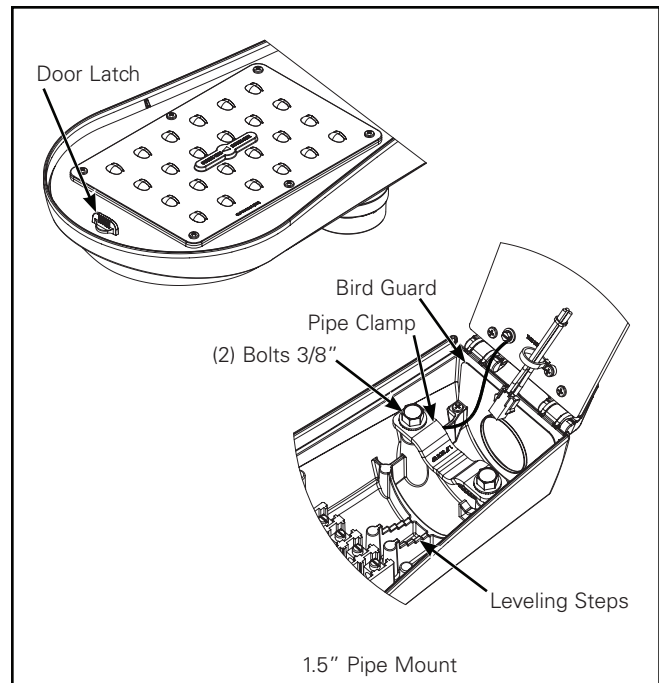

Figure 2.
5. If using a 1-1/2" pipe, remove the clamp bolts and flip clamp so that pipe size is visible from the top. The clamp must be reversed for the smaller pipe size option. (Figure 2.)